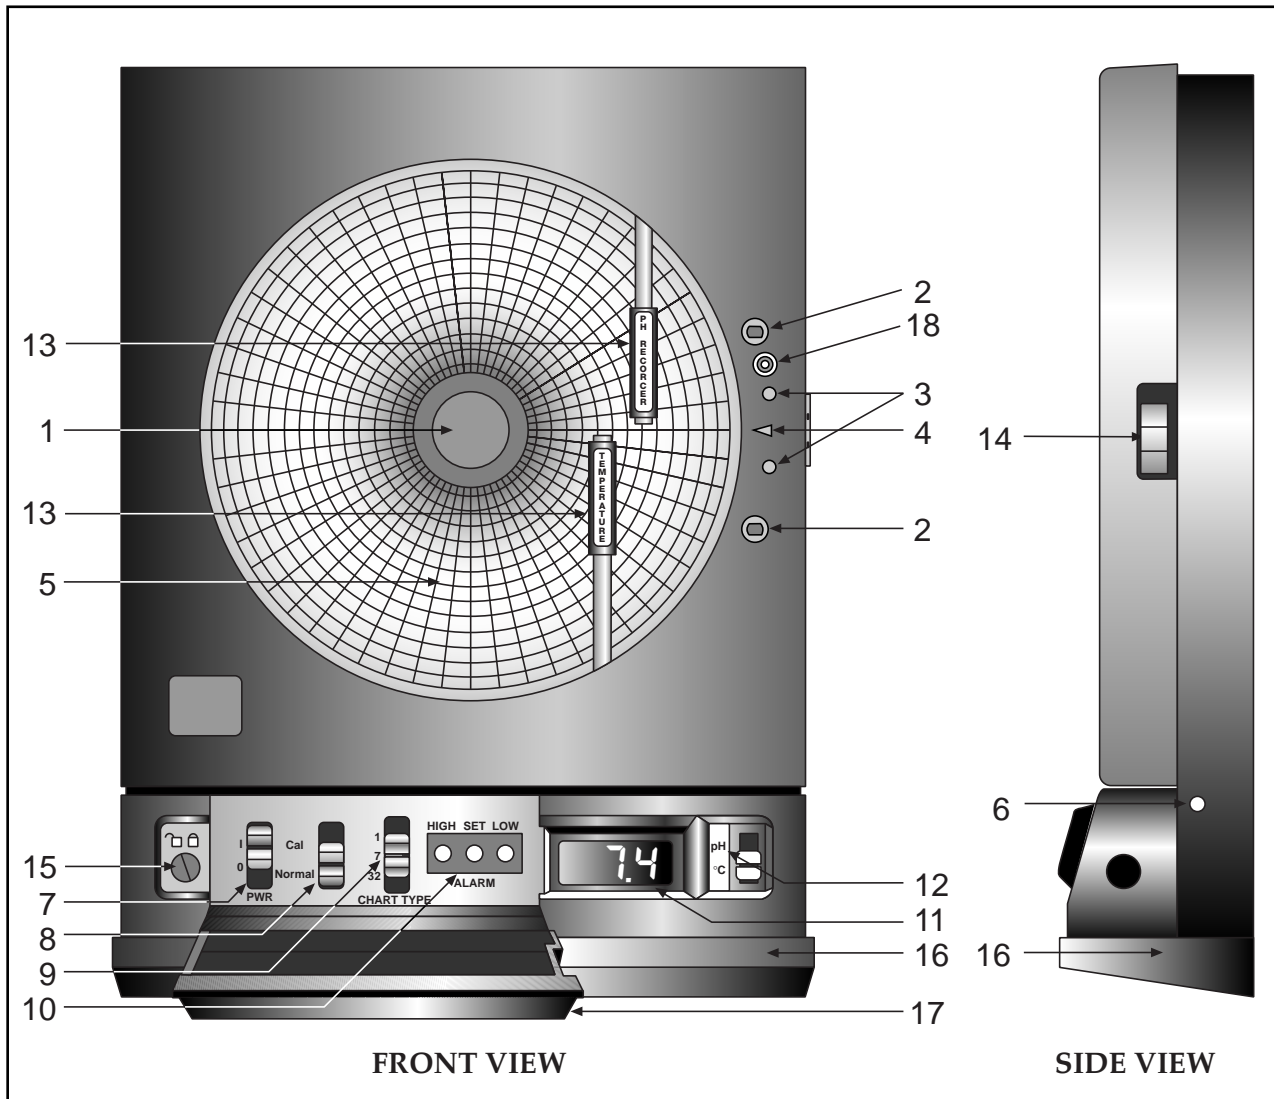

Figure 1-1. Front and Side Views of the Recorder
To mount the recorder on the wall, first locate the wall mounting holes using the template provided in the wall mounting kit. Leave the decorative foot cover (Figure 1-1, item #16) in place*. After drilling the holes, insert the wall anchors and put in the screws, leaving $\frac{1}{8}$ inch (3 mm) between the screw heads and the wall. Hang the recorder by positioning the two (2) "keyholes" in the rear cover over the screw heads.
The recorder can be ac powered using the 9Vdc, 1Amp ac adaptor supplied. The ac power jack is located on the right side of the unit (refer to Figure 1-1, item #6.). Make sure the power switch on the control panel (refer to Figure 1-1, item #7) is in the "O" position when plugging in the ac adaptor. The adaptor cable is 6 feet (2 meters) long.